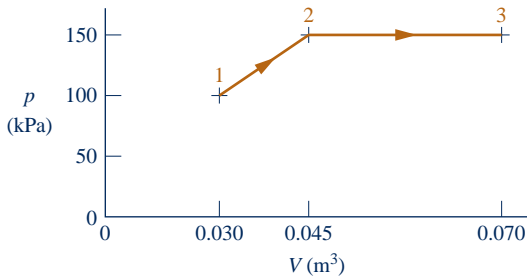

Fig. P2.31
2.31 Air contained within a piston–cylinder assembly is slowly heated. As shown in Fig. P2.31, during this process the pressure first varies linearly with volume and then remains constant. Determine the total work, in kJ.